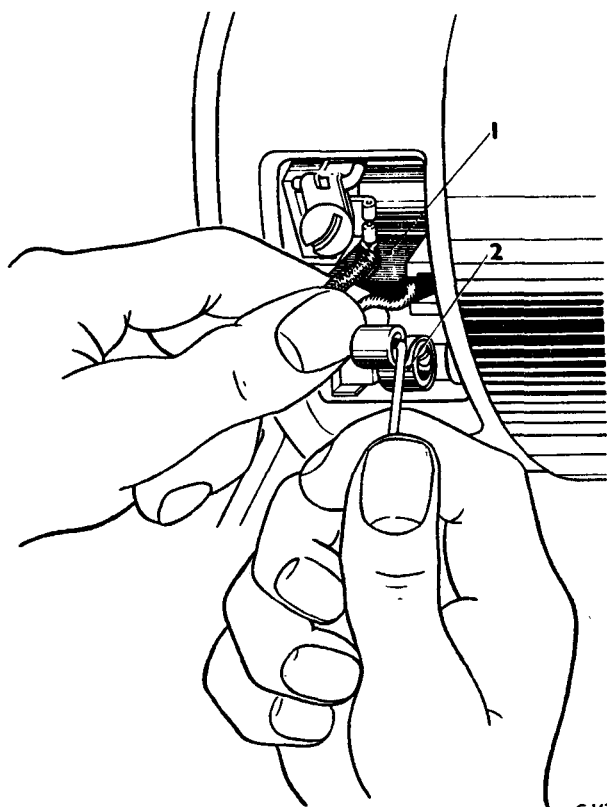
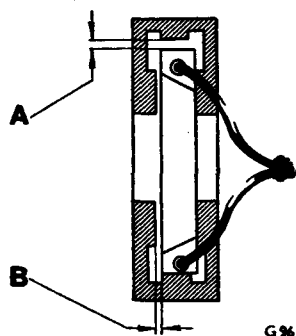

FIG. M39 CHECKING GENERATOR BRUSHES FOR FREEDOM OF MOVEMENT
FIG. M40 BRUSH CLEARANCES
7. Hold back each brush spring in turn and move the brush by gently pulling on its flexible connector (*see Fig. M39*). If the movement is sluggish, remove the brush from its box and ease the sides of the brush by lightly polishing on a smooth file. Clean out the brush boxes if dirty and check the clearances of the brushes in the boxes as sticking of the brushes can occur if clearances are insufficient (*see Fig. M40*). It is important that the brushes are fitted in their original positions.